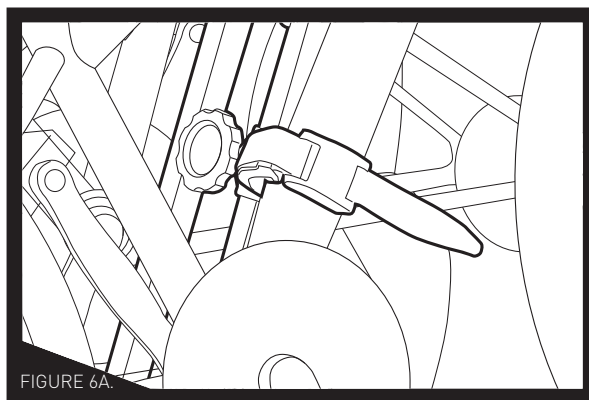

FIGURE 6A.
STEP 5: Secure bicycle in place with Frame Secure Strap by threading strap through the cam buckle and fully tightening around bicycle frame (Fig. 6A).